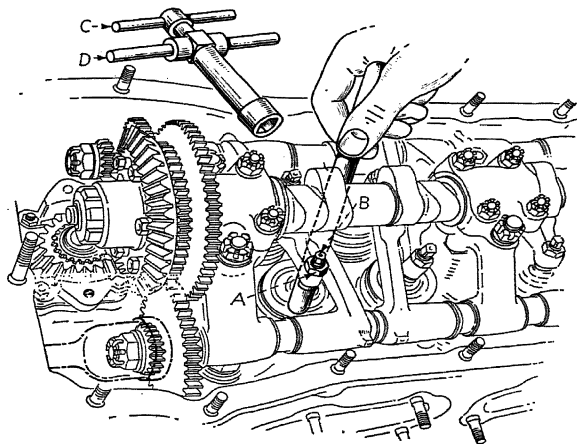

FIG. 44.—Adjusting tappet clearance.
**Adjusting Tappet Clearances.**—Engage the combined key wrench, shown in Fig. 44, with tappet lock nut *A* and tappet screw *B*. Hold the handle *C* and turn handle *D* in counterclockwise direction to slacken nut *A*. With the rocker pad at the base of the cam (that is, *not on the cam contour*), insert the 0.020 in. feeler, as shown. If the feeler cannot be inserted, unscrew tappet *B* until it can.